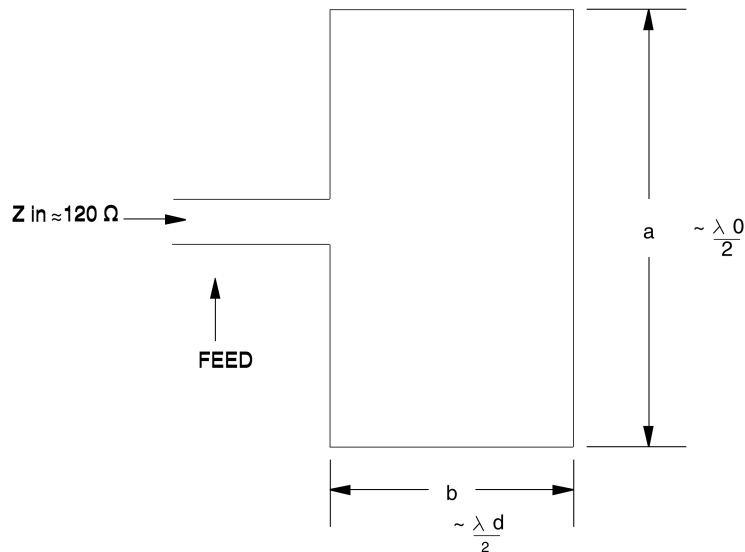
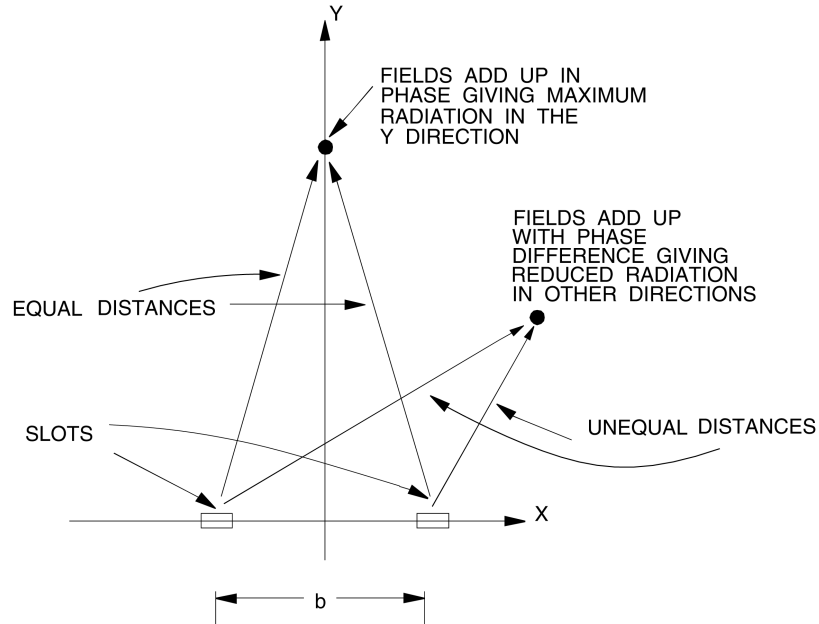
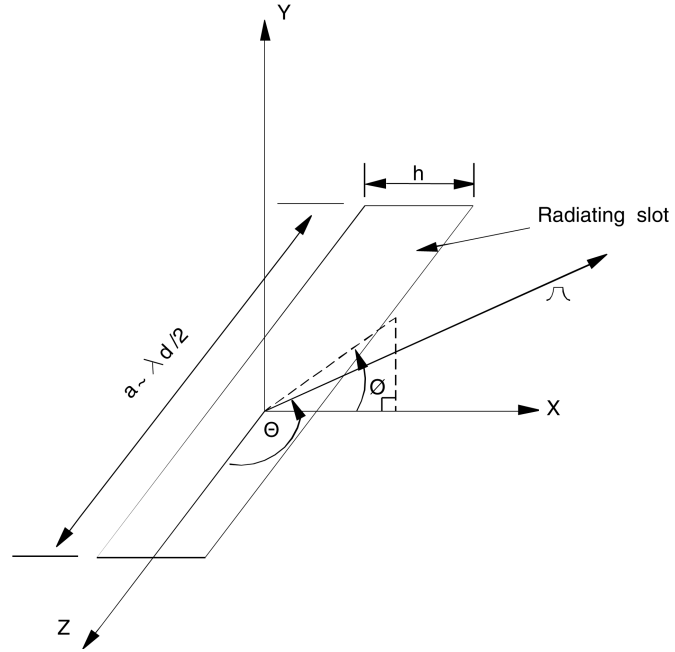

Figure 3. A basic rectangular microstrip antenna
**Figure 5. Two parallel slots in a waveguide**
Figure 7. Geometry for calculating the E- and H-plane radiation patterns of a radiating slot
Figure 3 gives the basic dimensions of a rectangular microstrip patch antenna. The conductance of the antenna is a function of the width  $a$ , whereas the resonant frequency is a function of the length  $b$ . The length  $b$  is given by
A useful analogy, which allows calculating with precision the characteristics of rectangular patch antennas, is to compare the patch antenna of Figure 3 to a two-slot waveguide slot antenna, as shown in Figure 5.
Since the two-slot waveguide antenna shown in Figure 5 is essentially equivalent to the patch antenna in Figure 3, the radiation patterns of the two antennas will be the same.
Figure 7 shows a three-dimensional representation of one slot. The axes and the angles  $\phi$  and  $\theta$  in this figure serve as references for the subsequent equations.
The dimension  $a$  and  $b$  in Equation (2) and (3) correspond to the width  $a$  and the length  $b$  of the patch in Figure 3. The slot width  $h$  in Figure 7 corresponds to the thickness of the dielectric substrate which separates the patch from the groundplane (see Figure 9 and 10).